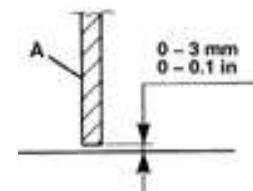
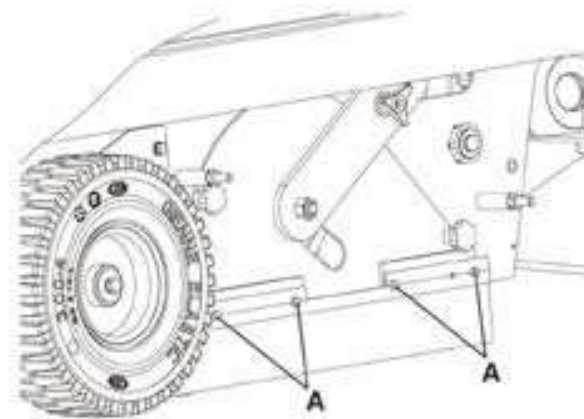

Figure 13
Figure 16
- 3) Check that distance from the ground of the side skirts (11 and 12) is within 0 – 0.12 in (0 – 3 mm) (A, fig. 13). If necessary, adjust the skirt height by using the slots on the screws (A, fig. 16).